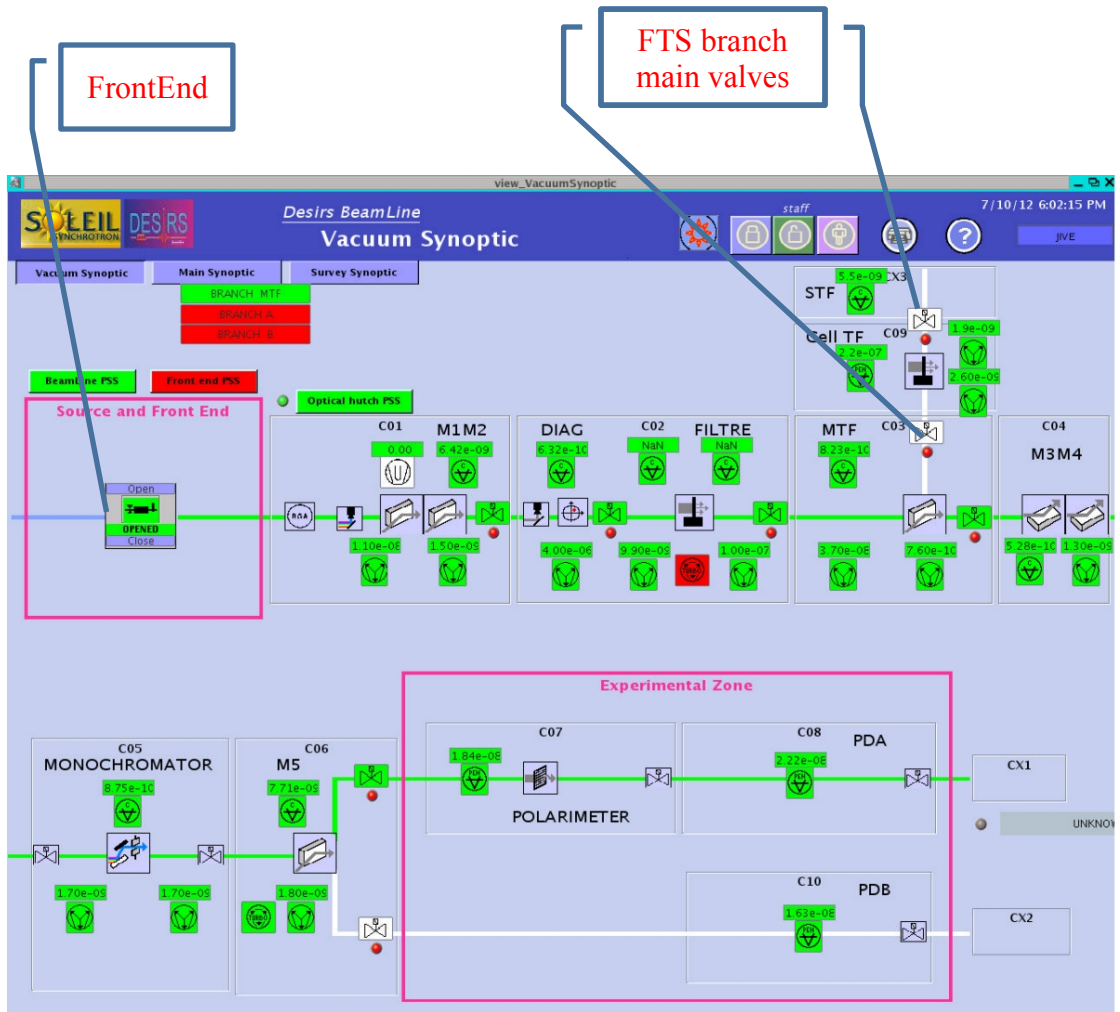

FIG.2
- Front-end control & the two main valves of the FTS branch : Global Screen panel (Left screen) on the beamline post control (figure 2)